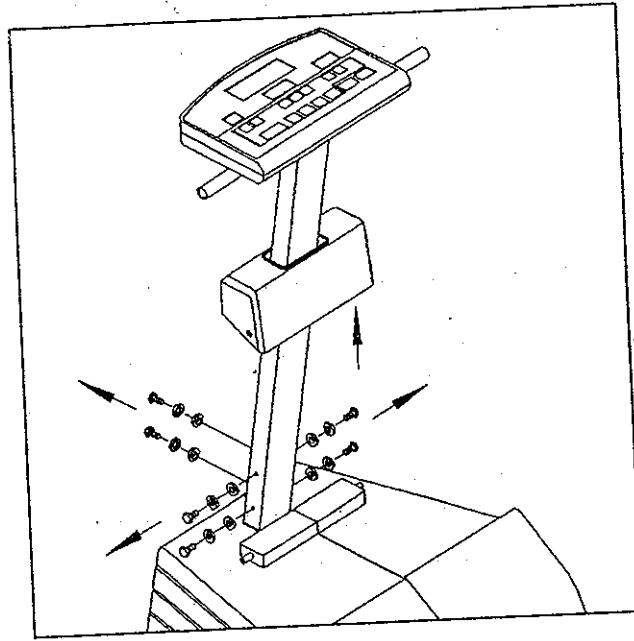

Fig. 3
3. Push the post shroud up and then unscrew all the screws and washers securing the front post (see Fig. 3).